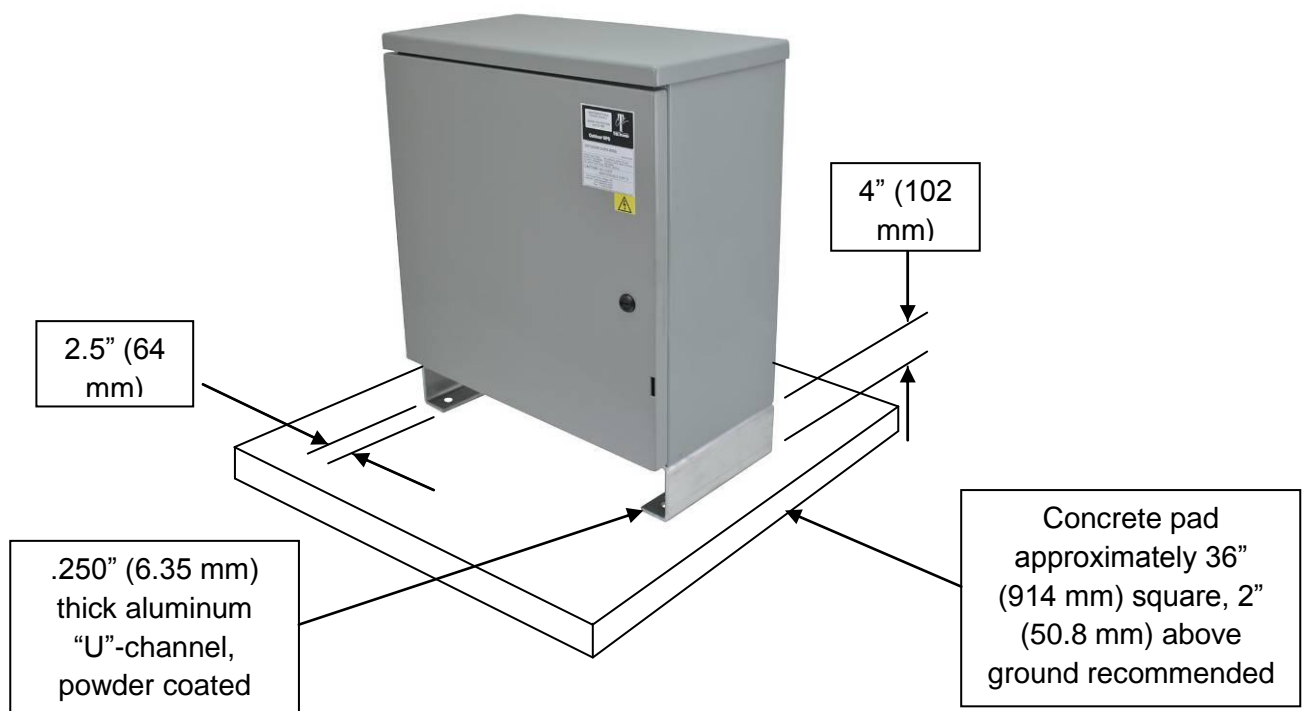

Figure 12: Pad-Mounting the Outdoor XUPS
- Prepare ground surface and pour concrete pad per local company practices and to approximate size as shown in Figure 12. If composite pad is used, follow manufacturer's instructions.
- Use the four (4) pre-punched holes in the U-channels to position and mount the cabinet assembly to the pad per local practices.